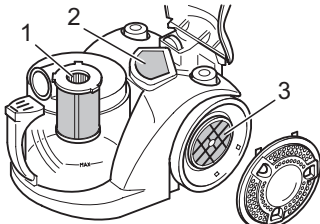

Fig. 18
- **Central laminar filter (Fig. 18/1)**
- **Motor protection filter (Fig. 18/2)**
- **Hygienic exhaust filter (Fig. 18/3)**